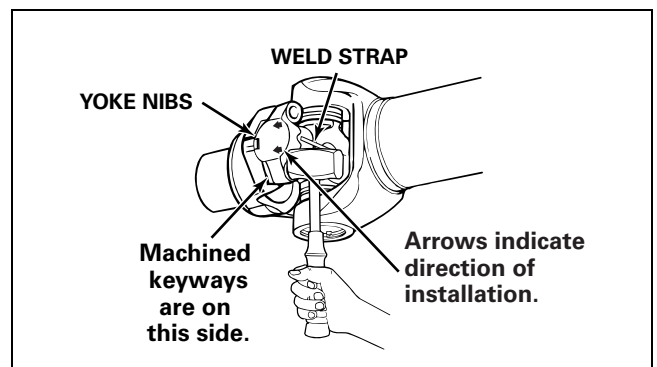

Figure 4.41
2. If necessary, tap the universal joint with a brass or copper hammer to ensure it is fully seated. Figure 4.41.